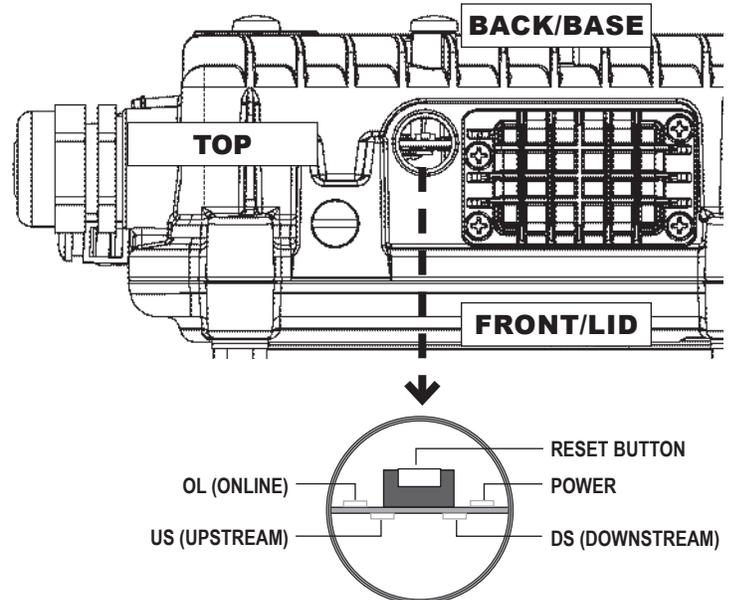

Fig. 9, Inspection Port Location and System LED detail
1. Use a torque wrench with 1/2" (13mm) socket to remove the inspection port cover and observe the system LEDs (See Fig. 9).